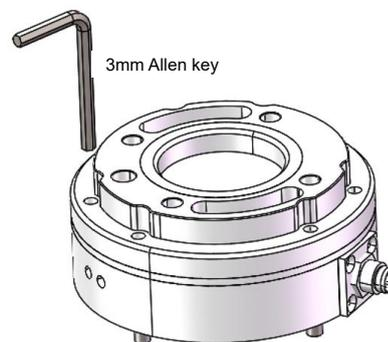

Figure 2-8 Loosen Embedded Screws Using a 3 mm Allen Key
- b. Separate the sensor from the mounting flange. When the sensor leaves the factory, the mounting flange and the sensor are connected by six embedded hexagon socket screws. Use a 3 mm Allen key to loosen them, so as to separate the mounting flange from the sensor, as shown in Figure 2-8.